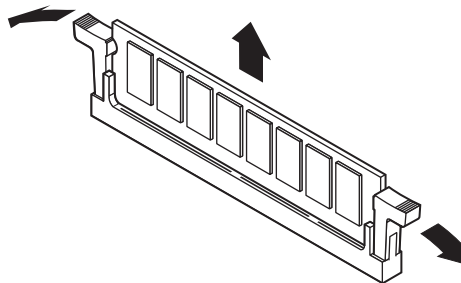

Figure 16: Opening the DIMM Socket Clamps
1. Gently push out first one and then the other plastic socket clamp on each end of the DIMM. The DIMM should pop up slightly from the socket (see Figure 16).